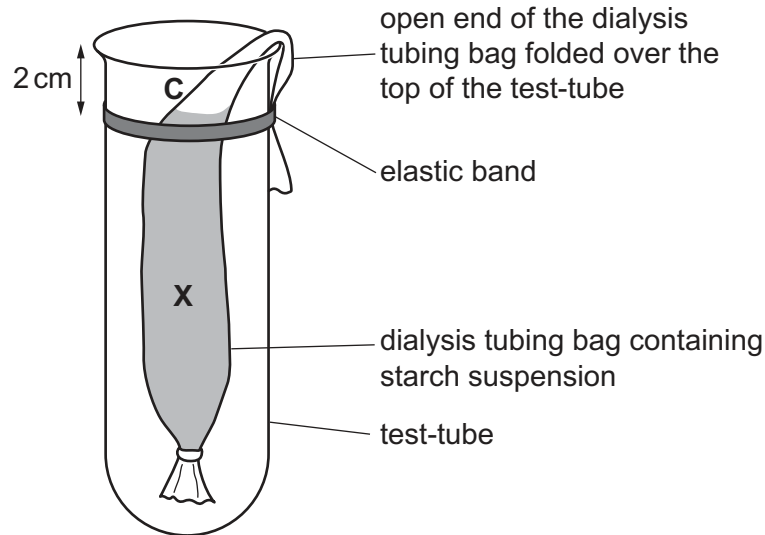

Fig. 1.2
- Step 5 Place the dialysis tubing bag containing starch suspension into test-tube **C**. Fold the open end of the dialysis tubing over the top of the test-tube. Secure with an elastic band approximately 2 cm from the top of the test-tube as shown in Fig. 1.2.